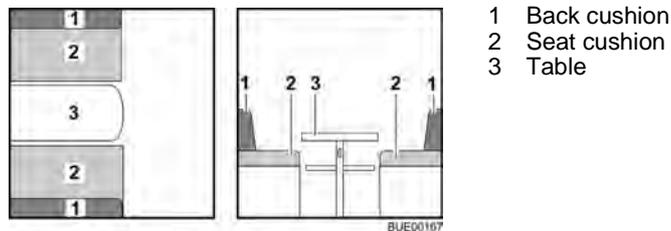

Fig. 81 Prior to conversion
- Convert the table (Fig. 81,3) to a bed foundation (see section 6.11).